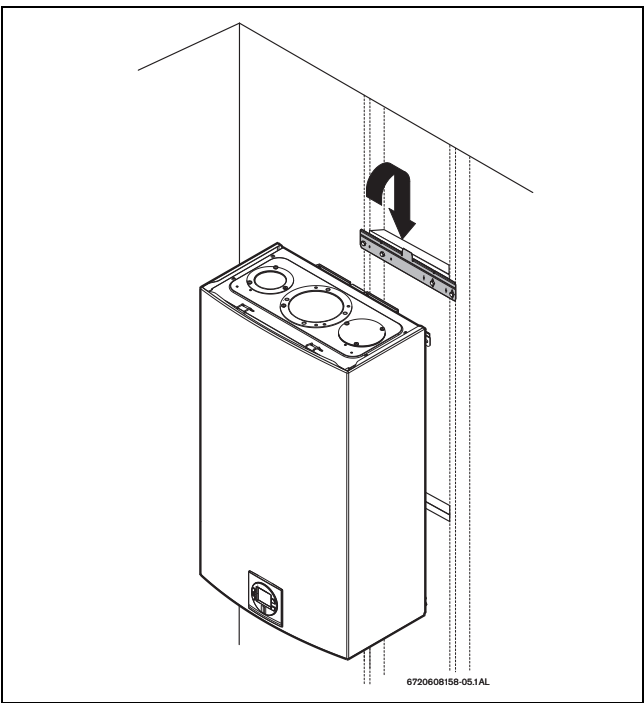

Fig. 33 Mounting the heater
- ▶ Hang the appliance on the bracket, see fig. 33, page 29.